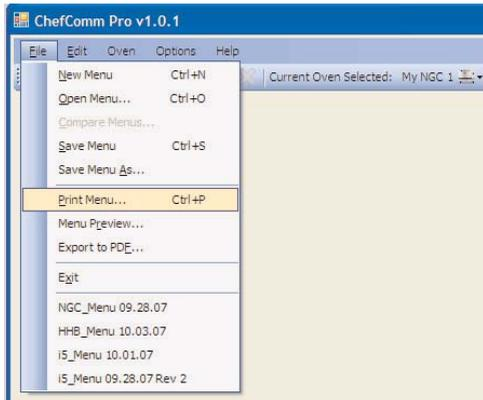

Figure 27: Print Menu
2. Select File > Print Menu... (Figure 27). You can also click the print icon on the ChefComm toolbar